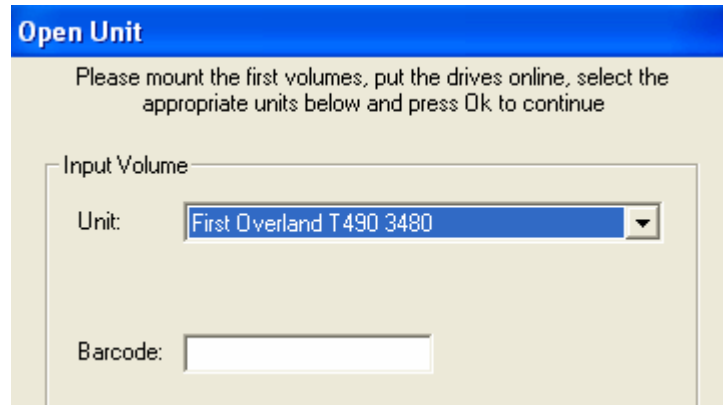

Figure 20: Open Unit/Input Volume Dialog Block with 3480
- If the Input unit is any type of tape media, (like 9 track, 8 mm, 3480 ...) then the user will have a choice to enter a barcode only. Figure 20: Open Unit/Input Volume Dialog Block with 3480.